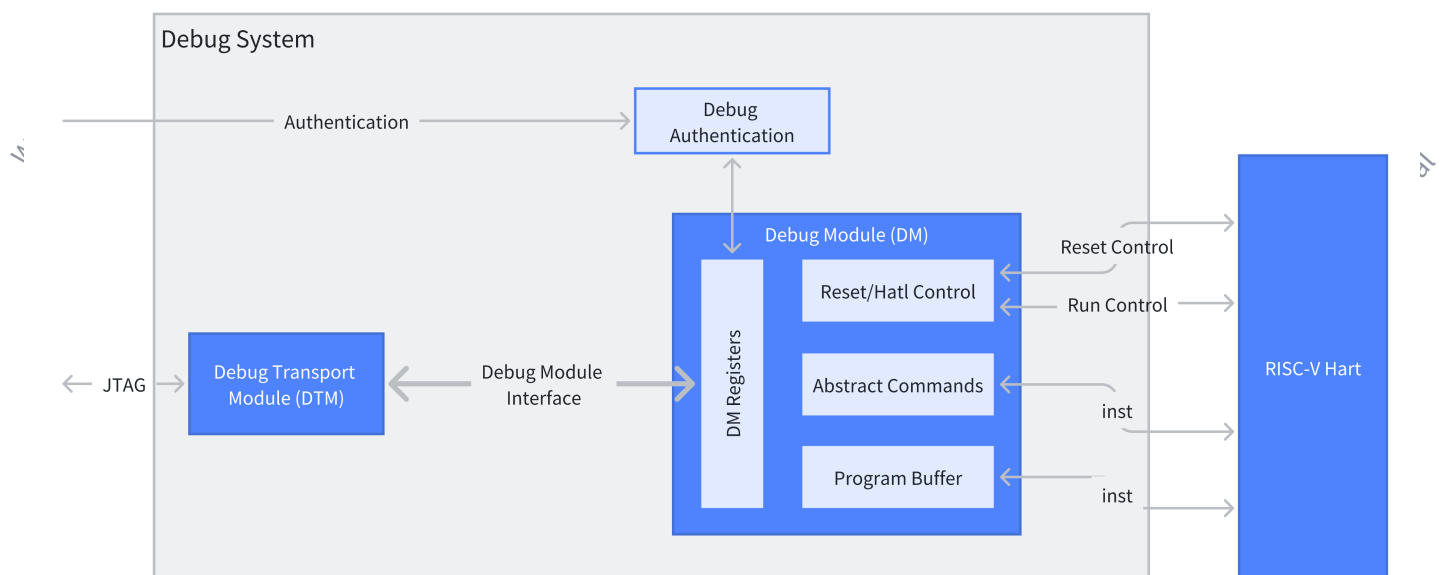

Figure 6. Overview of Debug System
Figure 6 shows the overview of Debug System. The software user interacts with the Debug Host (e.g. laptop), which is running a debugger (e.g. gdb). The debugger communicates with a Debug Translator (e.g. OpenOCD, which may include a hardware driver) to communicate with Debug Transport Hardware (e.g. Olimax USB-JTAG adapter). The Debug Transport Hardware connects the Debug Hosts to the hardware platform's Debug Transport Module (DTM) through JTAG (as shown in Figure 6). The DTM provides access to Debug Module (DM) using the Debug Module Interface (DMI).